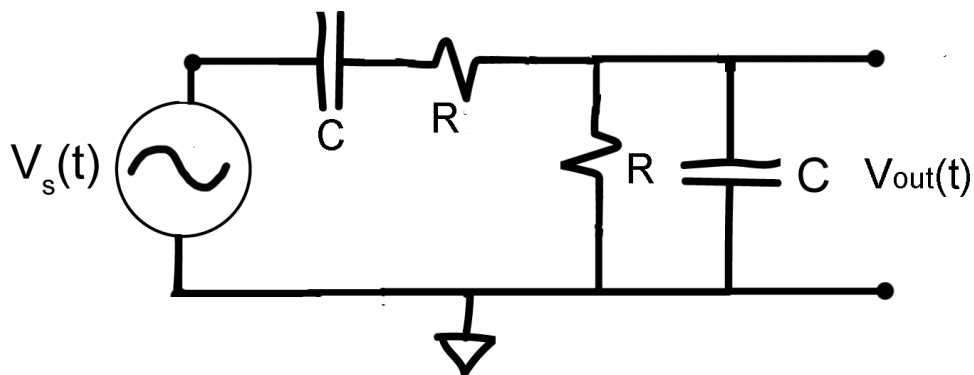
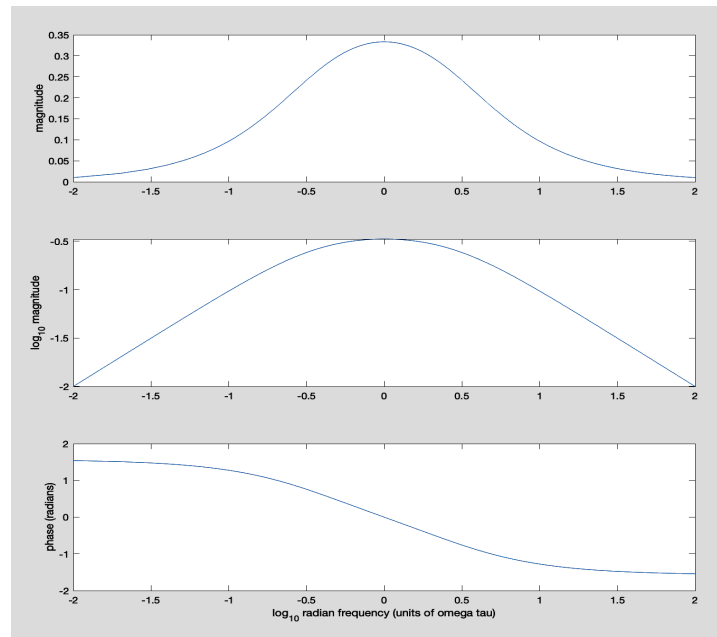

Figure 6.4
Figure 6.5
Build the circuit in Figure 6.4. The central frequency for this circuit is $\omega = 1/RC$ radians/s (Figure 6.5). Choose a combination of R and C to make the central frequency equal to *roughly* 1000 Hz.
Q.9. Calculate the expected response as predicted by the transfer function; refer to figure 6.5 as a normalized example. Recall that the output can be expressed in terms of voltage divider of complex impedance.